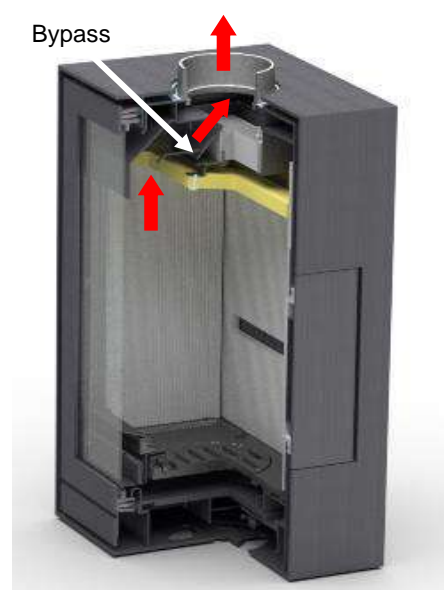

Fig. 28.- Bypass open
- If your stove has the CATALYTIC HYBRID WOODBOX System, open the by-pass placed in the top inside the stove (Fig. 28).